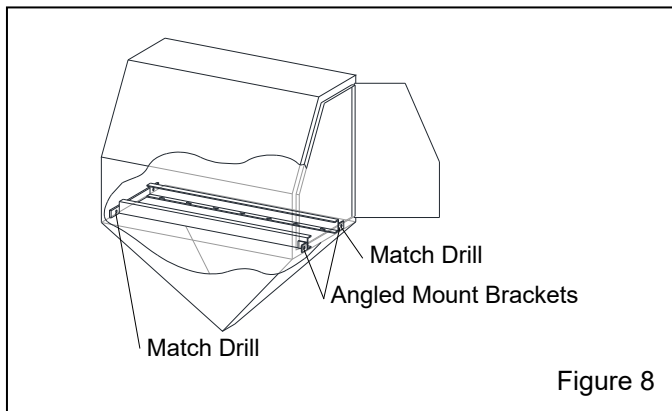

Figure 8
3.3.3 Refer to Figure 8 and center the track and table assembly inside the cabinet on top of the grate. Make sure the two angled mounting brackets are facing toward the door from which the table will slide.